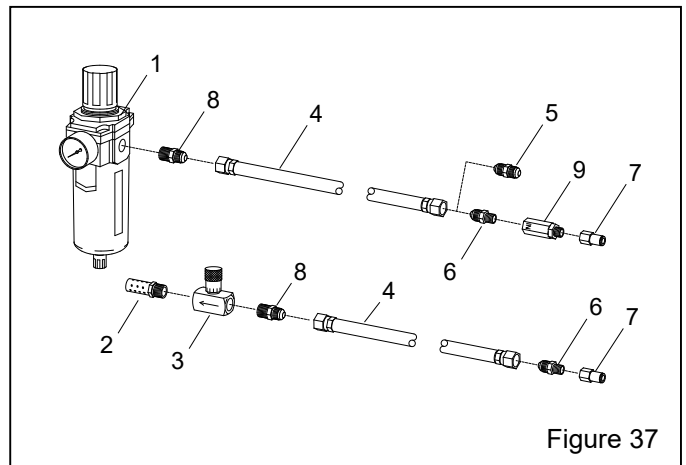

Figure 37
• Air-motor control hose kit (all items shown in Section 11.5, Figure 37).
**11.5 Air-Motor Control Hose Kit – Figure 37**